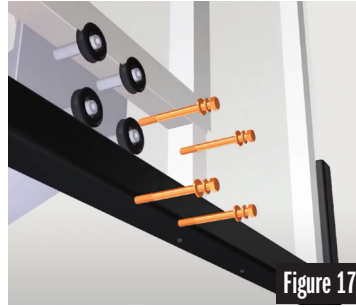

Figure 17
**STEP 10:** Remove hardware from the rim connection tubes on the Extension Arm. See Figure 17.